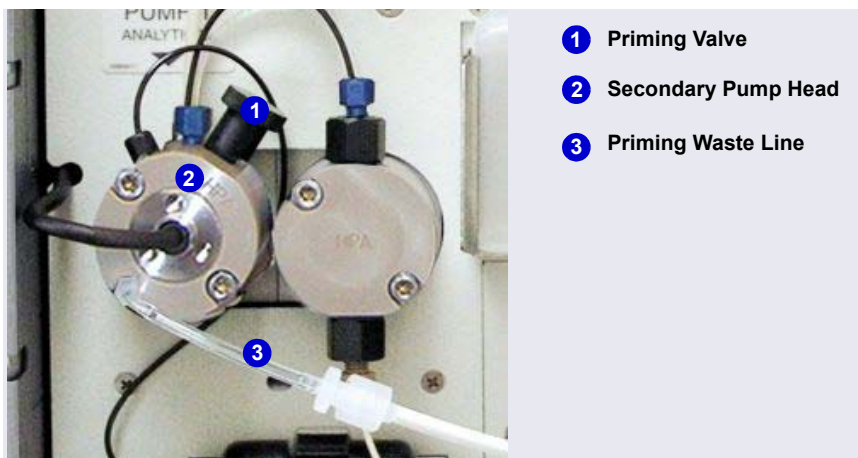

Figure 9-2. DP/SP Priming Valve
5. Open the priming valve on the secondary pump head (see Figure 9-2) by turning it one-half turn counterclockwise.
1. Open the priming valve on the secondary pump head (see Figure 9-2) by turning it one-half turn counterclockwise.